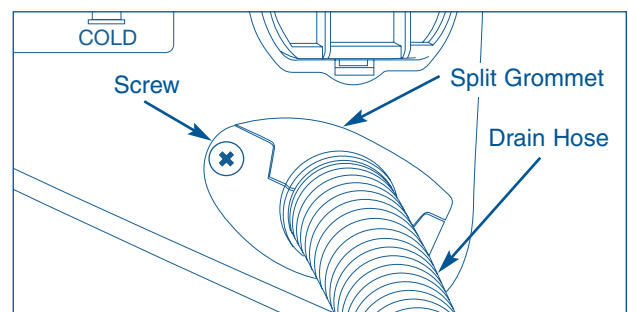

Figure 4-37.
3. From the back of the unit, use a #2 square bit screwdriver and extract the screw securing the hose grommet to the rear panel and pull the coupler out the back. (See Figure 4-37)